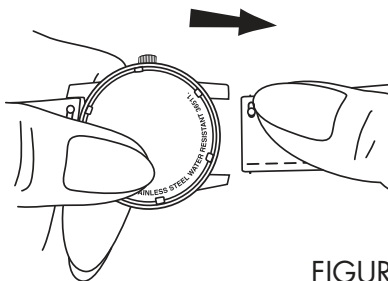

FIGURE 3A
3. (Figure 3A) Once freed from hole in lug on this side, tension pin should slide easily out of the case on other side.